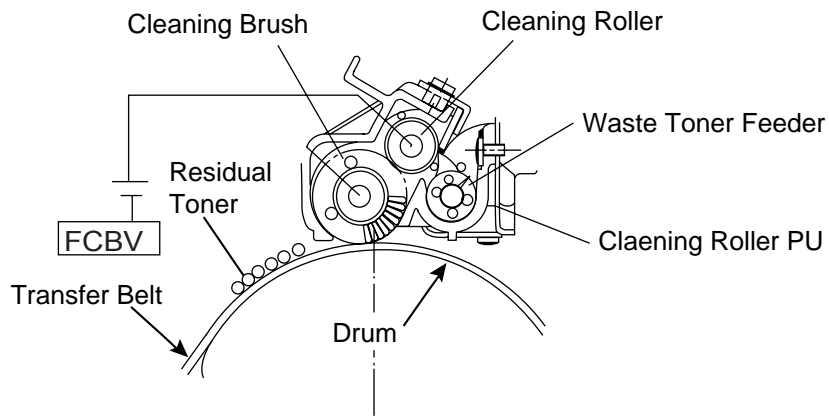

Fig.4-22
- (1) Structure of Transfer Unit Cleaner PU (Refer to Fig.4-22)
- iv) FCBV(V) is injected to the cleaning brush as well, and the cleaning brush is self-biased by the resistance of brush.
- (2) Process of Transfer Belt Cleaning (Refer to Fig.4-22)
- iii) Cleaning roller has been biased to the positive FCBV(V), the residual toner absorbed into the cleaning brush is attracted by the positive FCBV(V) is adhered to the surface of cleaning roller.